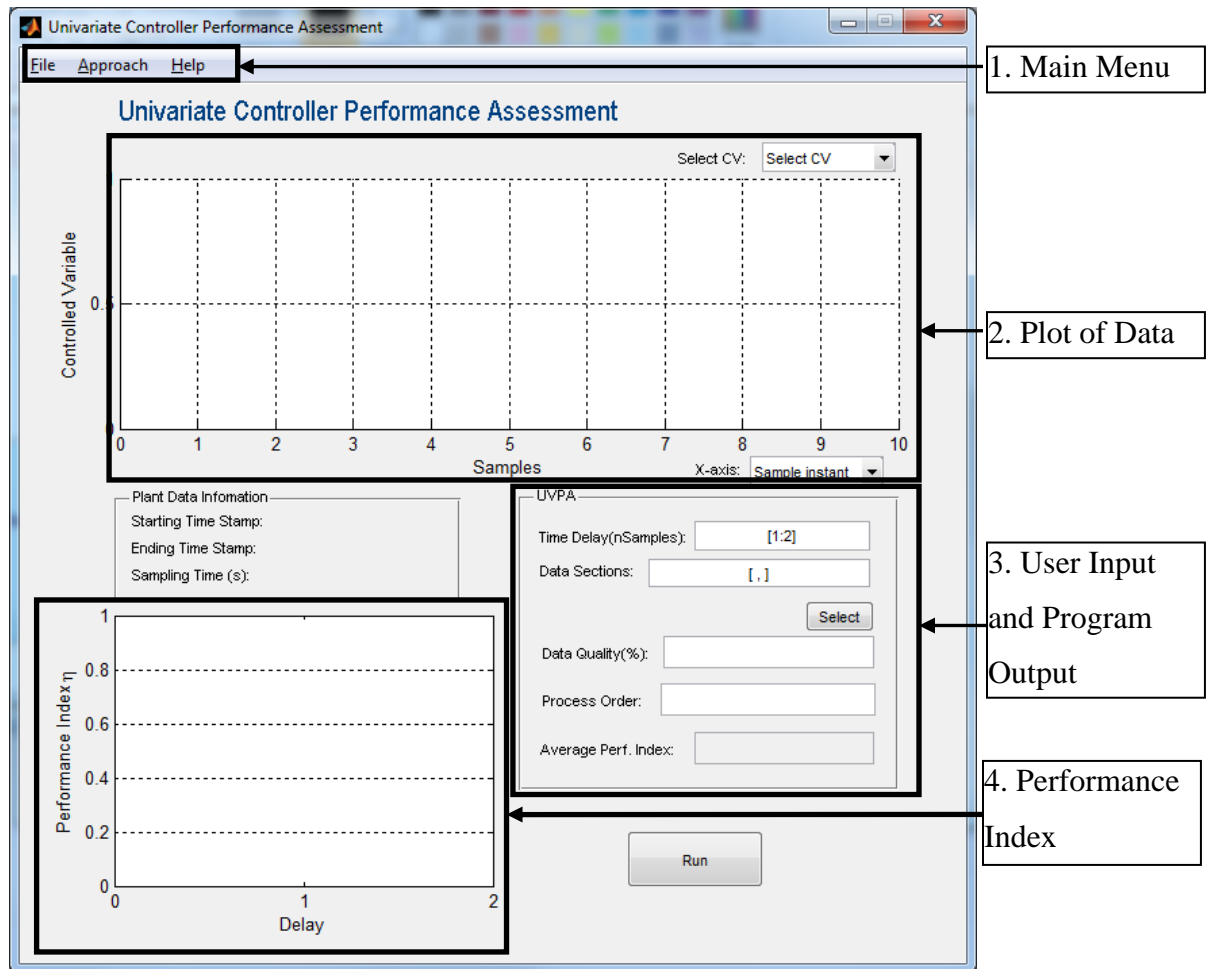
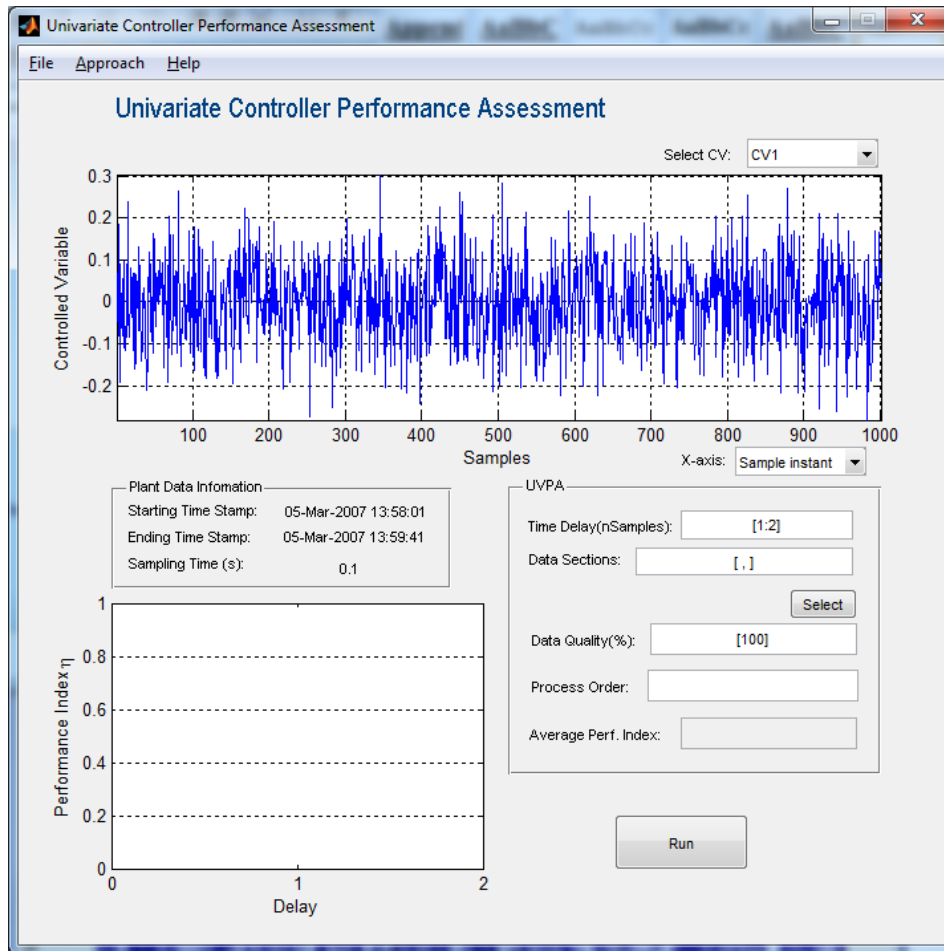

Figure 2: The main GUI for this toolbox, with the main regions highlighted
Figure 3: Screen shot after loading the data
- 4) Press the “UVPA” menu. A new GUI will appear that is shown in Figure 2.
- 5) For the purpose of this quick start, we will be using the sample data provided in the zip file. Go to the "Data" Menu located in the Main Menu area, which is denoted as 1 in Figure 2. Select the "Compact" Option and select the "Ex_Compact_Data.mat" file.
- 6) After a few seconds, the data should be loaded and a graph of the data should appear in region 5 of Figure 2. The resulting screenshot is shown in Figure 3.
- 7) Before the data can be analysed, the user needs to complete the section that is given as region 3 in Figure 2. In this example, multiple times, [1:2], will be selected and the Time Sections will be left as they are.
- 8) Once this has been entered, click the “Run” button, which is found at the right bottom of Figure 2.